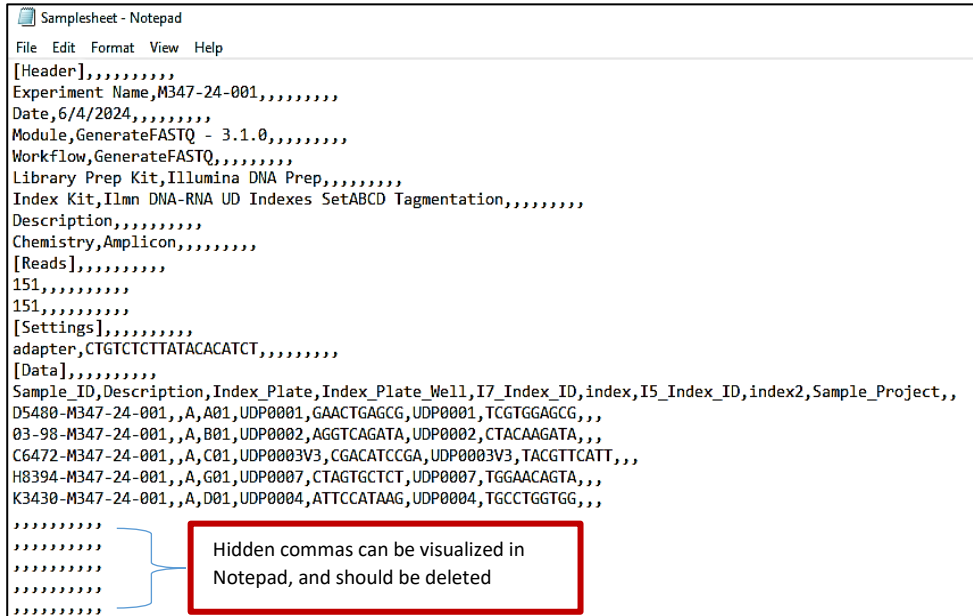

Figure 6. Sample sheet tab in Notepad, depicting extra commas to be deleted.
- 1.3. Open the CSV file in WordPad or NotePad and delete any commas listed after the final sample. See Fig. 6 below.